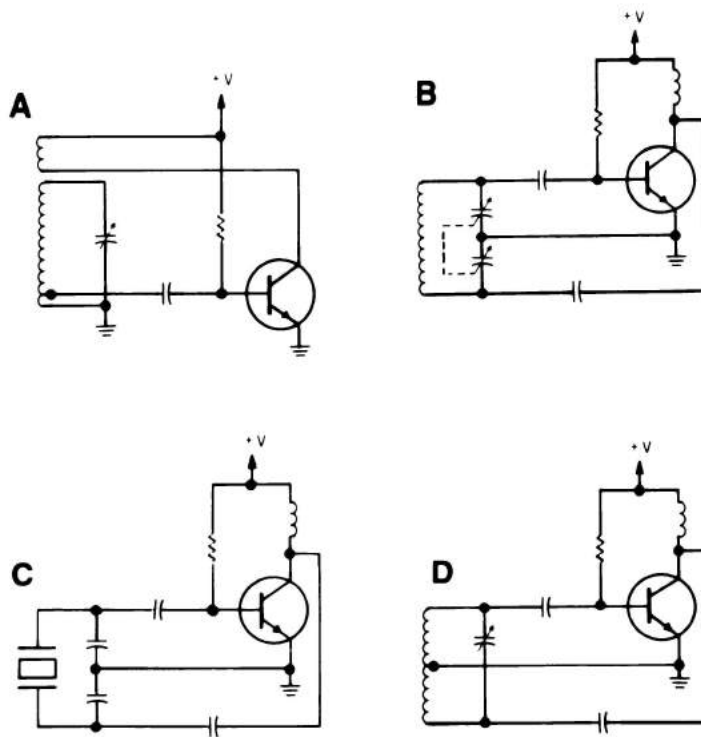

Figure 4-67
27. Identify the schematic diagrams shown in Figure 4-67.
27. The schematic diagrams shown in Figure 4-67 are: